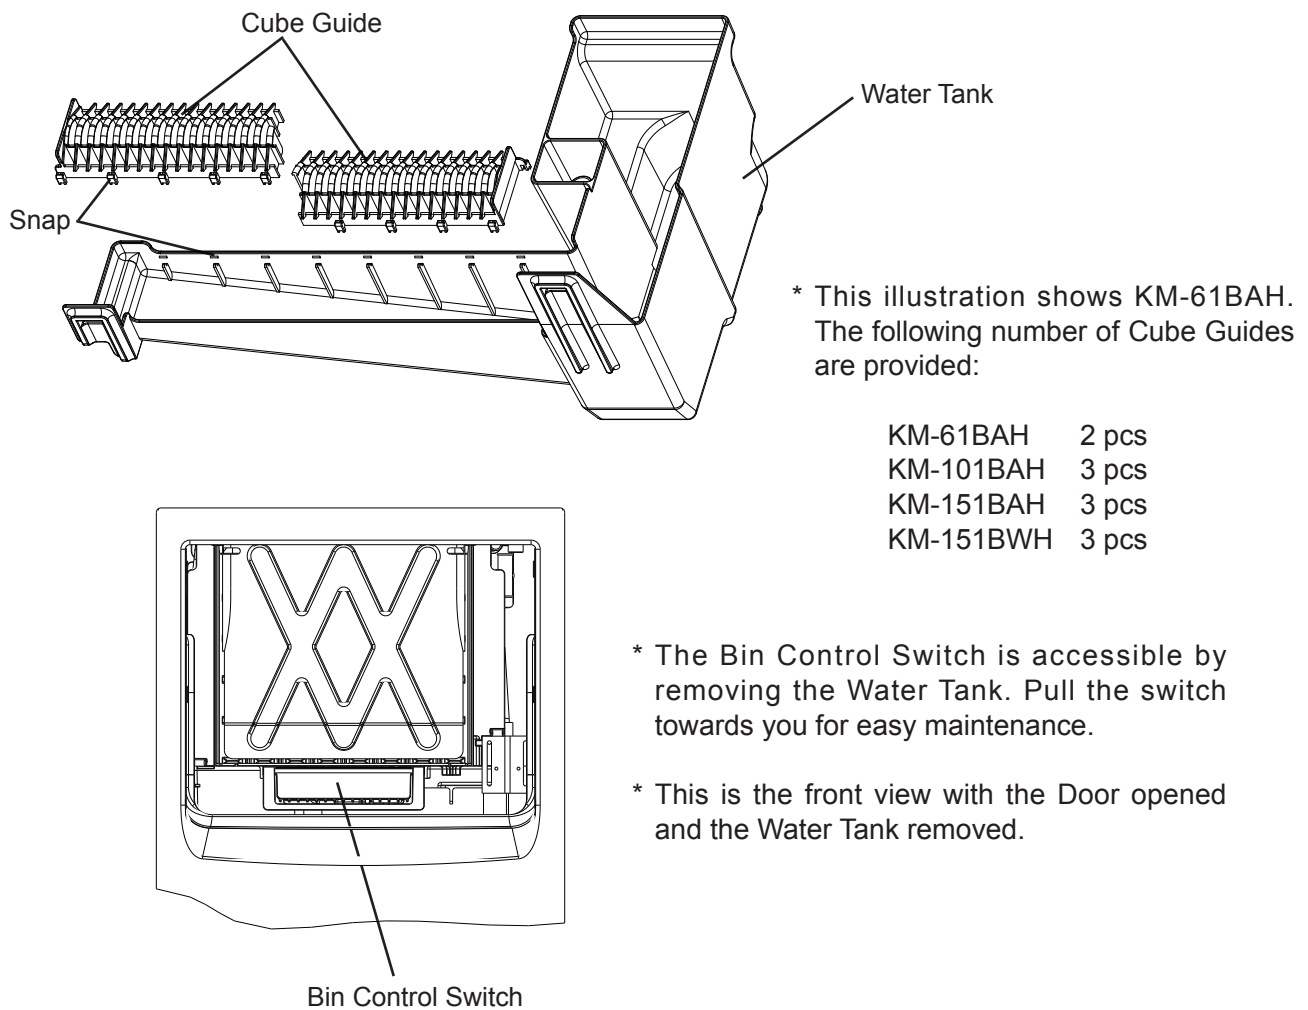

Fig. 10
- 14) Pull the Cube Guides (quantity varies depending on model) upward to remove them from the Water Tank. They are snapped in place. See Fig. 10.